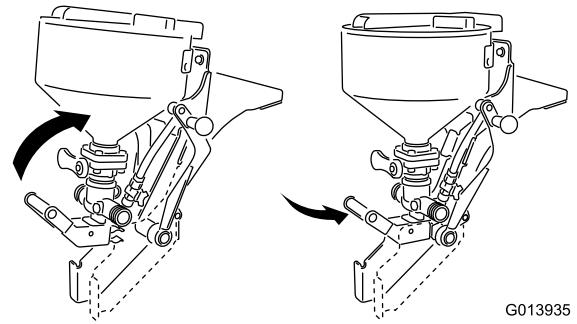

Figure 18
- Lift the lower handle to raise the eductor while at the same time slightly tipping it toward the tank (Figure 18).
- Guide the tongue under the cross bar with the welded tab in the upper portion of the frame assembly (Figure 18).
- Then pivot the assembly toward the tank taking care to line up the spring clamp with the large pivot housing in the lower portion of the frame (Figure 18).